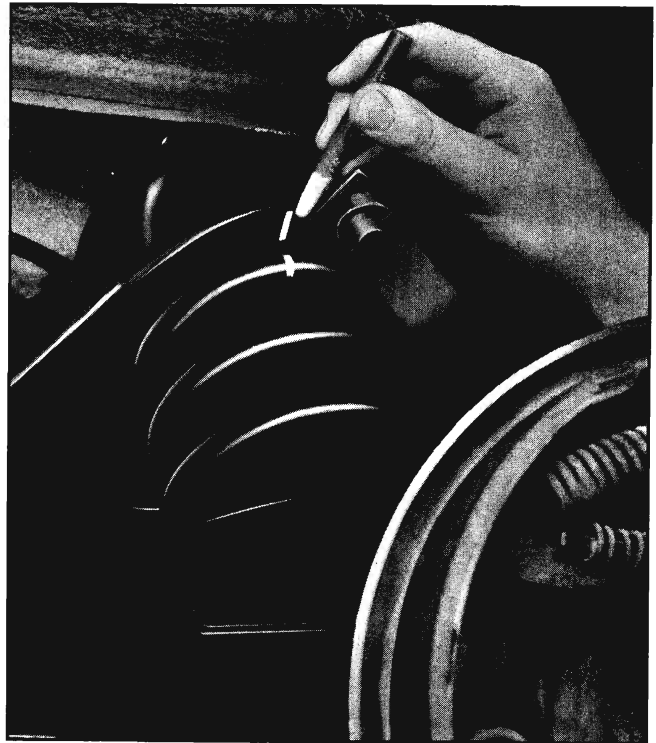

Fig. 3-31 Indexing Coil Spring
7. Index coil spring with spring seat (Fig. 3-31).
1. Set spring into crossmember spring tower and pry into place in lower control arm. If same spring is used, be sure that index marks line up (Fig. 3-31).